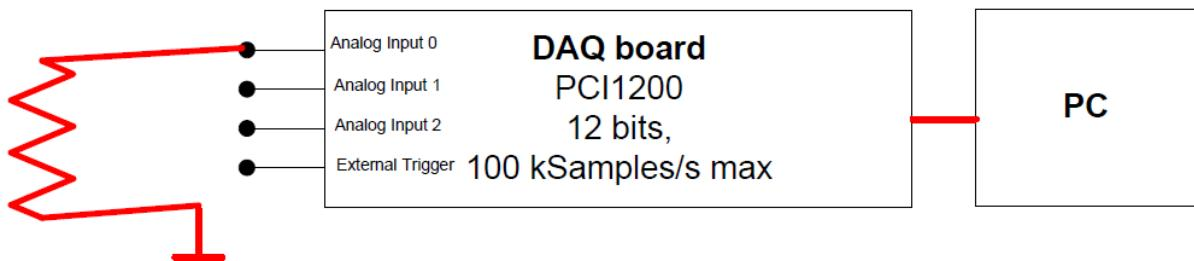

Figure 6 : In order to measure the resistor's noise without amplifier, the resistor is directly connected to the digital acquisition board.
1. Plug a resistor (e.g. $10\ k\Omega$) on the support whose the two ends are connected to the input of the ADC controlled by the PC (see Figure 6, CH0).